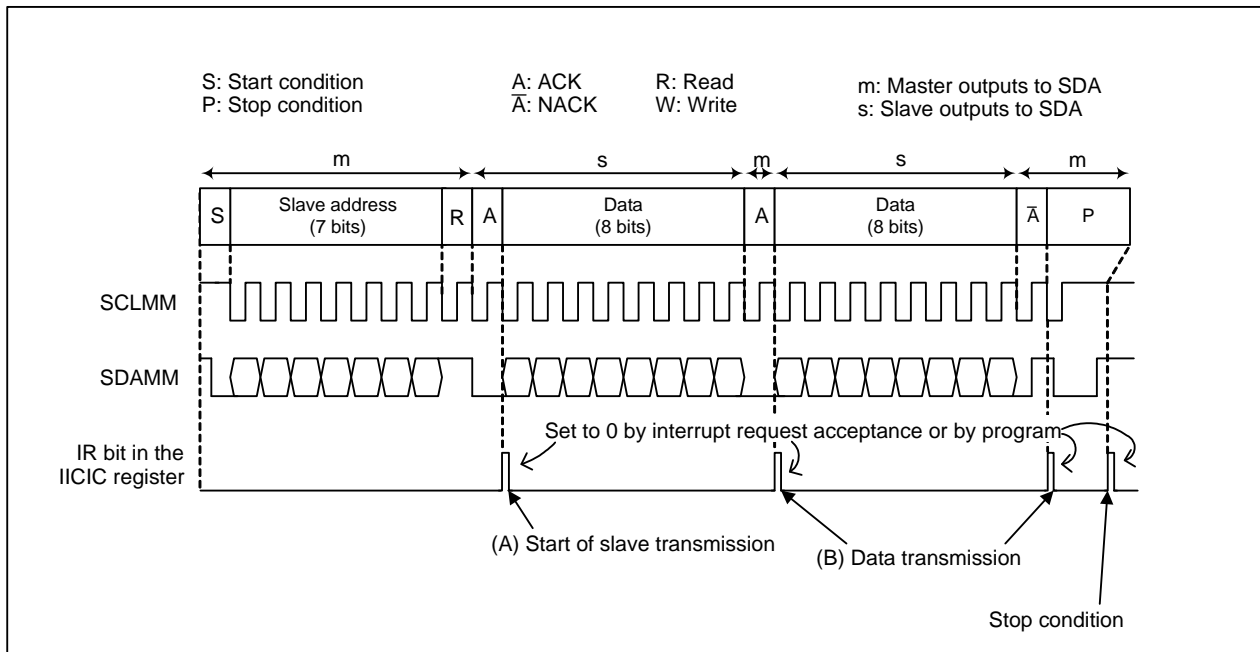

Figure 25.20 Example of Slave Transmission
- (1) Read the received data from the S00 register.
- (2) Set the ACKBIT bit in the S20 register to 1 (no ACK presents) because the data is the last one.
- (3) Write dummy data to the S00 register.
Slave transmission is described in this section. The initial settings described in 25.3.10.1 “Initial Settings” are assumed to be completed. Figure 25.20 shows the example of slave transmission. The following programs (A) to (B) are executed at (A) and (B) in Figure 25.20, respectively.